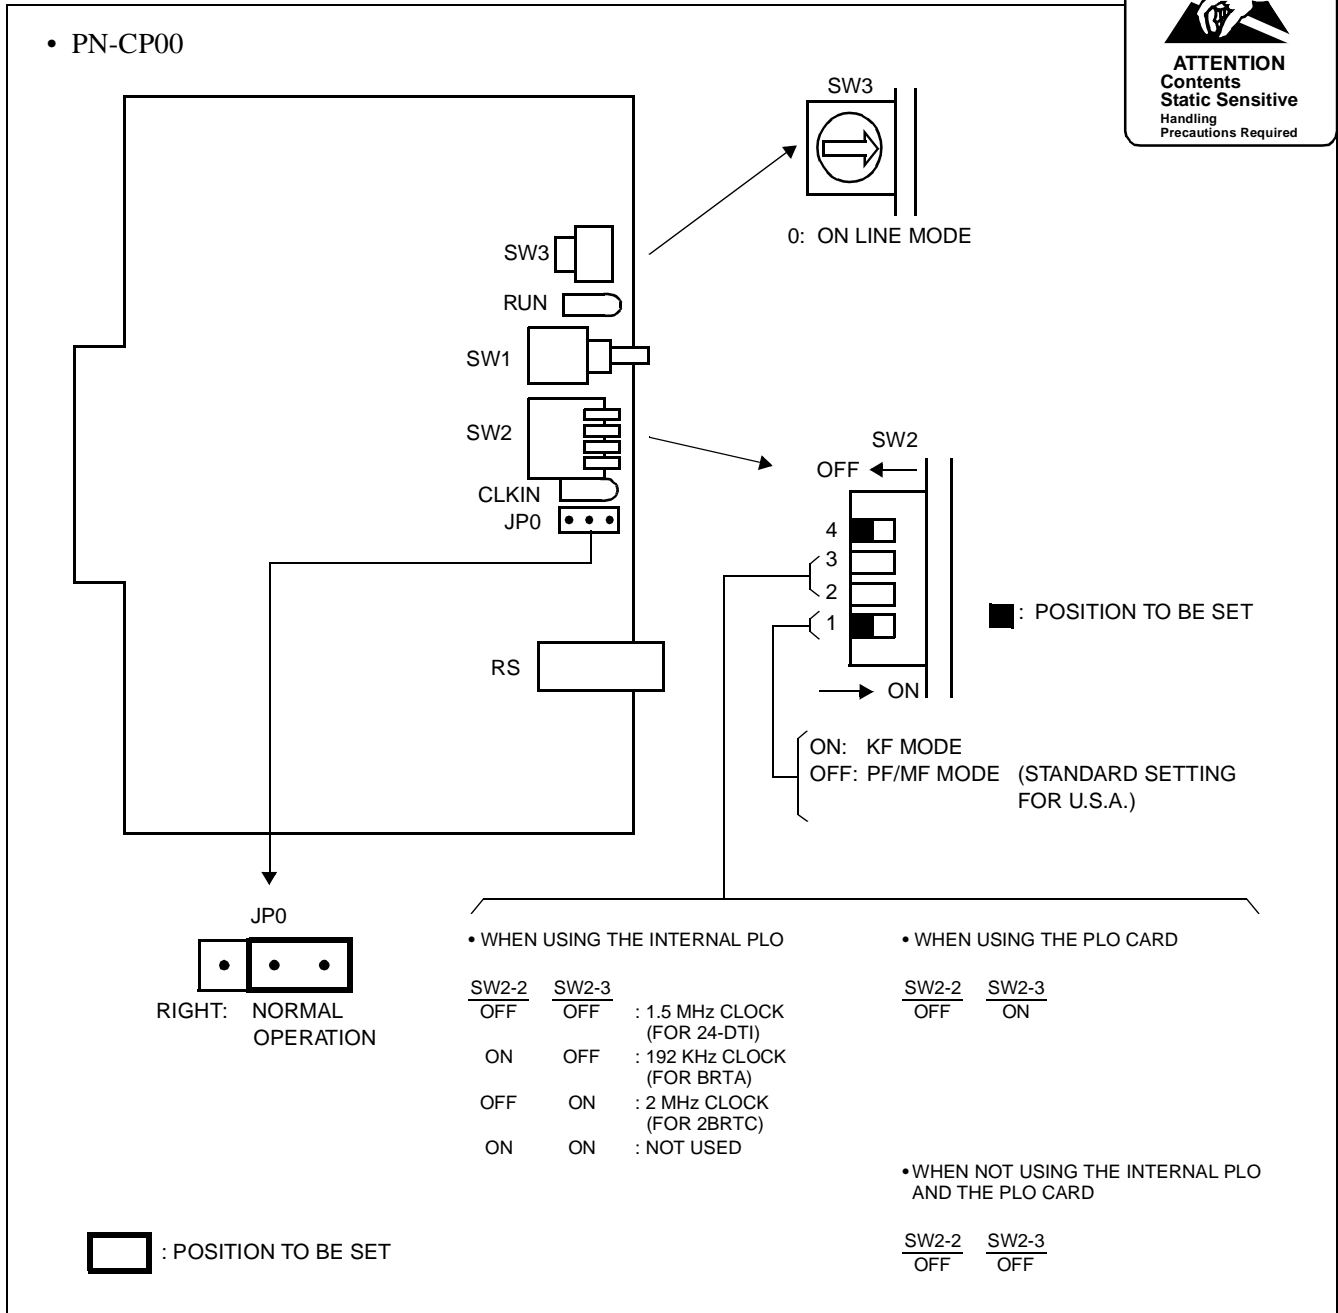

Figure 3-6 Switch Settings on the MP Card (1/3)
STEP 1: On the MP (PN-CP00/CP00-B/CP03) card, set the switches as shown in Figure 3-6.